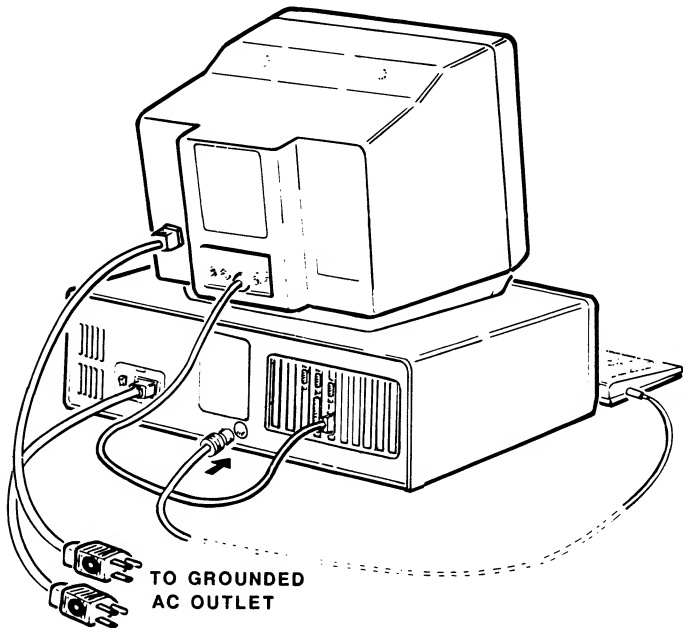

Figure 1-4. Connecting the Video Monitor, Keyboard, and AC Power Cords
3. Locate and connect the computer power cord to the computer as shown in Figure 1-4.
5. Connect the keyboard cable to the computer as shown in Figure 1-4.